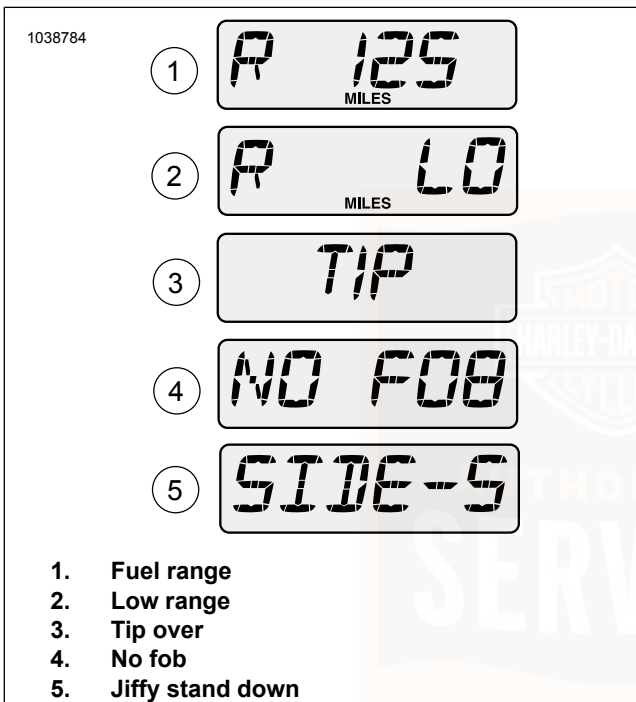

Figure 33. Odometer Window Displays
See Figure 33. The fuel range display (1) shows the approximate mileage available with the amount of fuel left in the fuel tank.
See Figure 33. After the fuel range drops to approximately 10 miles or 10 kilometers remaining, the fuel range display will scroll "R LO" (2) to indicate that the motorcycle will shortly run out of fuel.
See Figure 33. Should motorcycle be tipped over, the word "TIP" (3) appears in the odometer window. The engine can not start until reset.
See Figure 33. If the motorcycle is driven off leaving the fob behind, "NO FOB" (4) temporarily displays in the odometer window.
See Figure 33. On international (HDI) models, a "SIDE-STAND" (5) message will scroll across the display if the motorcycle is placed into gear while the jiffy stand is down. See Operating Jiffy Stand (Page 47).